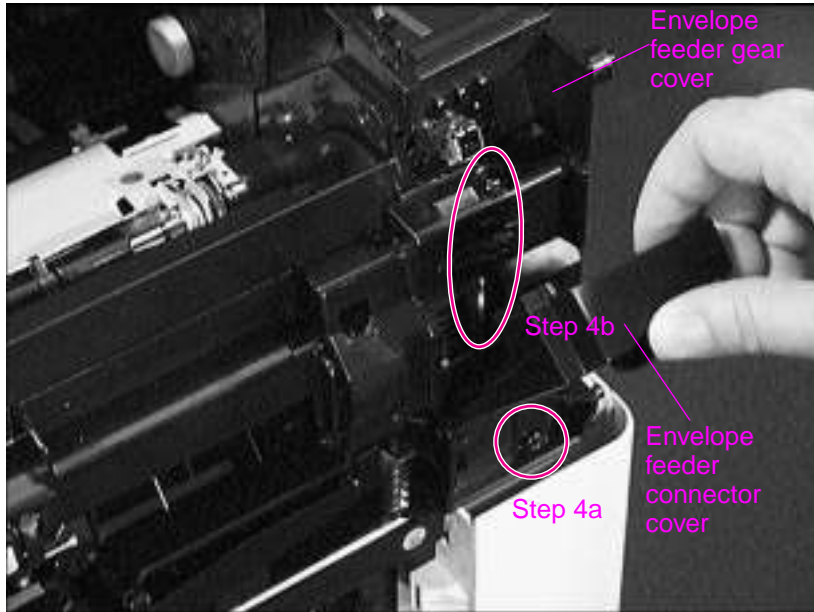
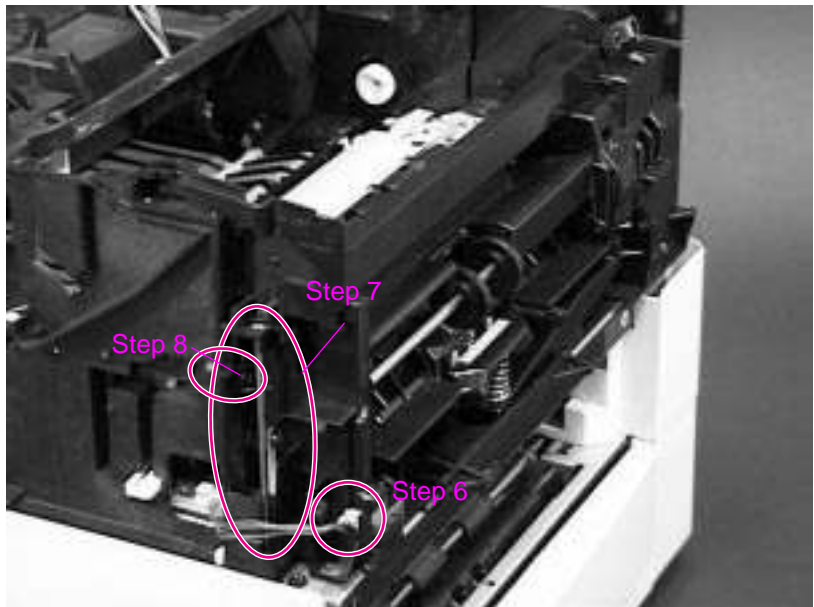

Figure 6-26 Removing the Envelope Feeder Gear Cover
Figure 6-28 Removing the Tray 1 Pickup Assembly – Left Side
- 1 Remove the Rear Right Side cover (page 6-6). Remove the Formatter Cage Assembly (page 6-20), Formatter Pan (page 6-39), and 2 long screws from the Tray 1 Pickup Assembly (See Figure 6-26 on page 6-29 and Figure 6-28 on page 6-31).